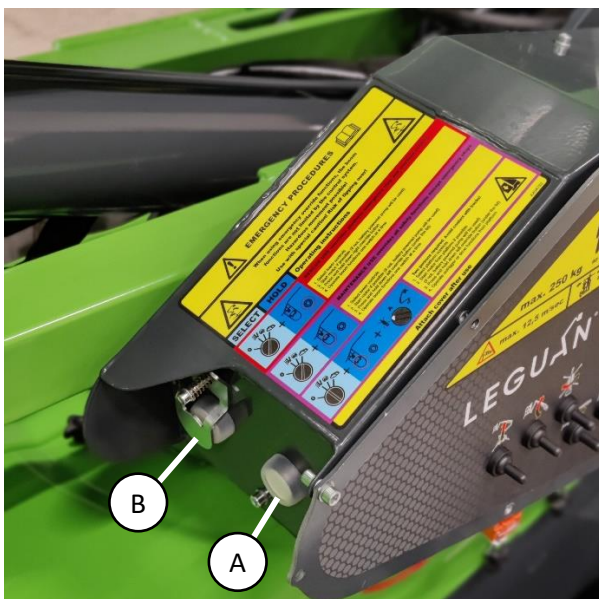

Figure 9. Override buttons
For possible emergency situations the access platform is equipped with load control override button (figure 9 (A)). The button must only be used in **extreme emergency situations**, for example the operator has lost consciousness in the platform and must be lowered for their safety. The platform must be moved to directions that decrease the overturning moment (towards the center of the machine). **The manufacturer is not responsible for misuse of the function!** The override button is located on the left-hand side of the lower control panel and is only operational when lower control is selected as the active control position.
3. Press and hold the override button closer to the operator (figure 9 (A)).
For possible emergency situations the access platform is equipped with a safety function override button (figure 9 (B)). It enables the operation of drive, outrigger and boom functions in fault situations. The function can for example used in a situation where a sensor has broken, and the machine must be moved to a safe location to be repaired. **Use extreme caution and only in emergency situation!**
3. Press and hold the override button under the lid further from the operator (figure 9 (B)).